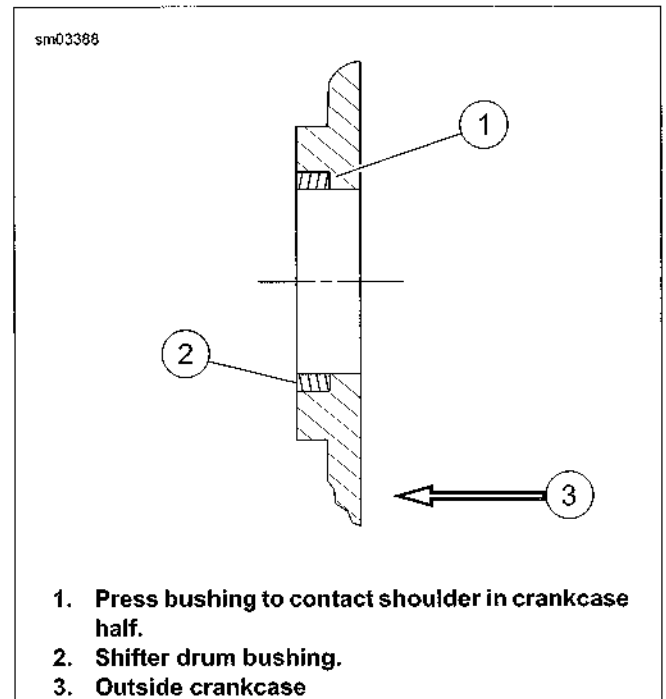

Figure 5-61. Shifter Drum Bushing Assembly
2. See Figure 5-61. Lay bushing squarely over bore. Using a pressing tool larger than OD of bushing, press bushing into bore until tool contacts crankcase.